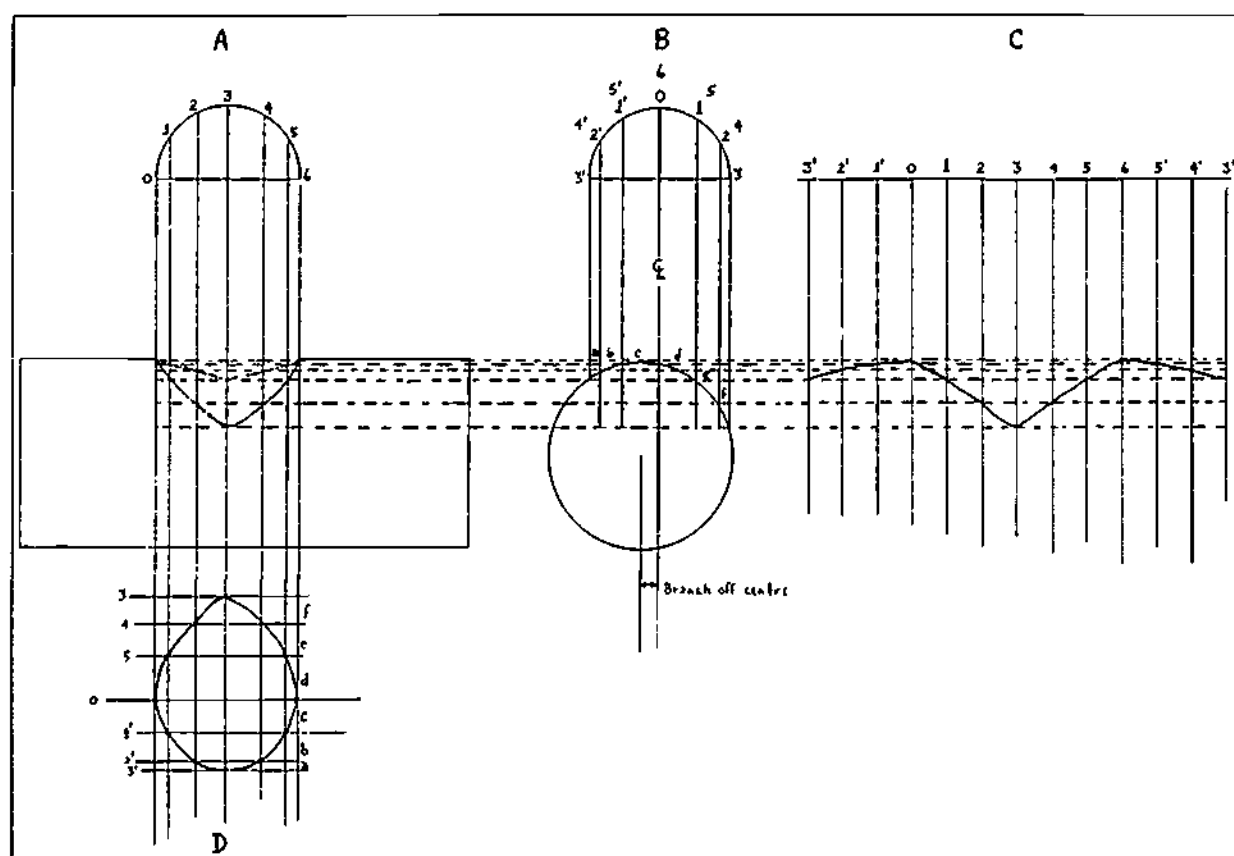

Figure 5-34. 90° Tee, Off Centre, Unequal Pipes
**90° Tee, Off Centre, Unequal Pipes** In this exercise (Figure 5-34) some variations from the basic layout principles described previously are involved. It is very important to number the division points on the semi-circle in the end elevation carefully in order to distinguish the references from each side of the centre line. Thus, in locating the mitre lines on the side elevation A, the visible mitre line derives from correlating points 1, 2, 3, 4, 5, 6 on A with points 1, 2, 3, 4, 5, 6 on B. The non-visible mitre line derives from correlating points 1, 2, 3, 4, 5, 6 on A with points 1', 2', 3', 4', 5', 6' on B.